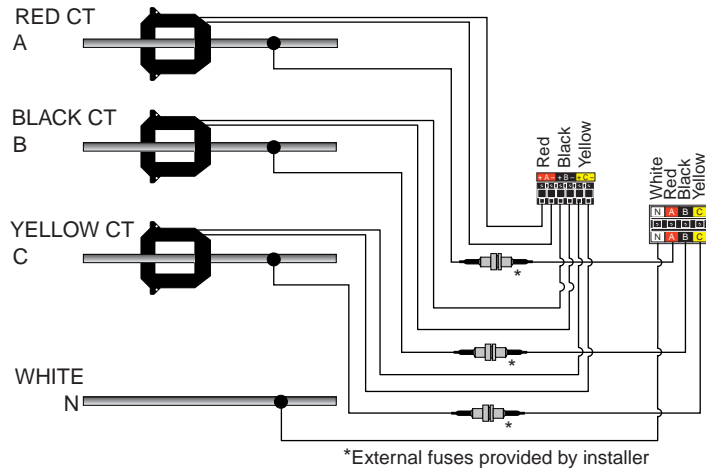

Figure 6: 3-phase, 4-wire installation
7. Attach CT leads to appropriately colored CT input terminals (e.g., red lead to red terminal) as shown (see Figure 6 through Figure 8). Polarity is indicated, with the minus (-) terminals connected to neutral within the meter, but polarity is insignificant to the operation of the meter.
8. Connect voltage leads to phase conductors as shown (see Figure 6 through Figure 8). Connect leads from the colored voltage terminals to the power conductor with the matching CT (e.g., red CT lead to red terminal). Since the meter is powered from the monitored source (red and neutral terminals), it is important to connect the voltage leads to a circuit that is not normally switched off.